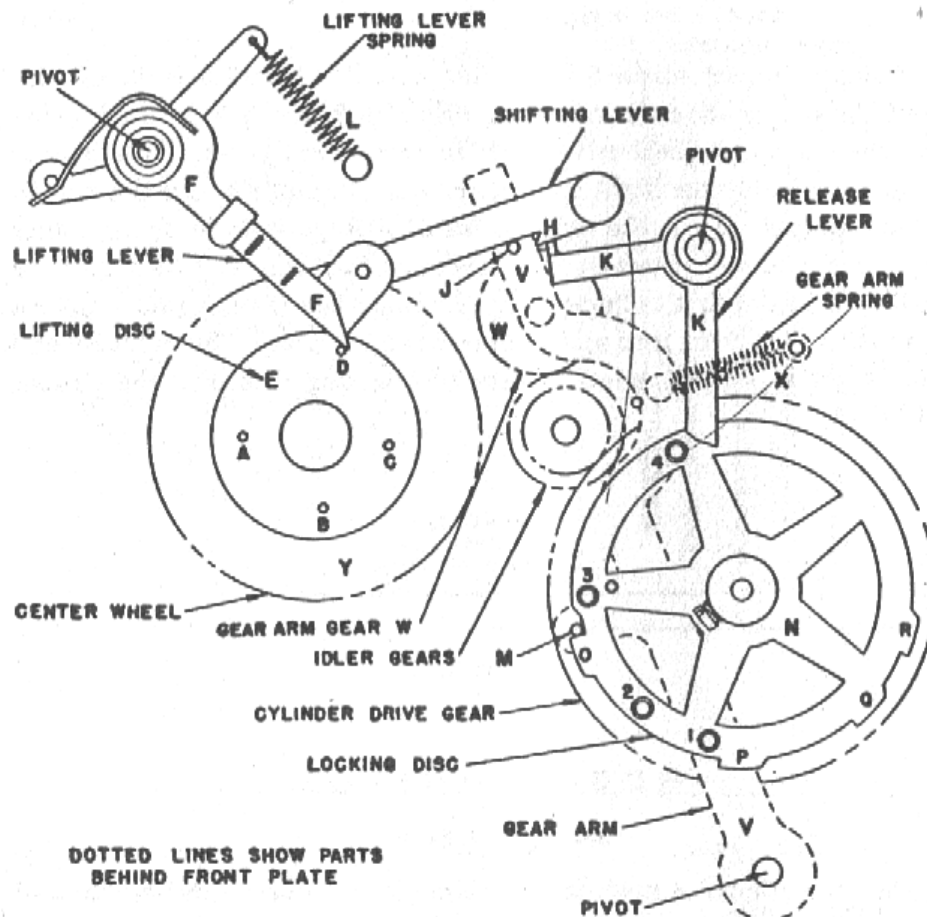

Figure 2
*See Figure 2, Page 5*
The gear arm gear W may be meshing too deep with the center wheel Y. Bend the top of the gear arm V toward the banking pin. See Figure 2, Page 5.